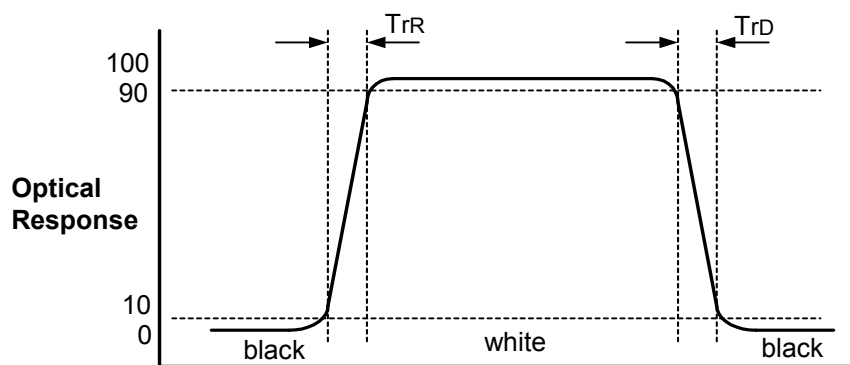

FIG. 3 Response Time
4. Response time is the time required for the display to transition from black to white(Rise Time, Tr_R) and from white to black(Decay Time, Tr_D). For additional information see FIG 3.